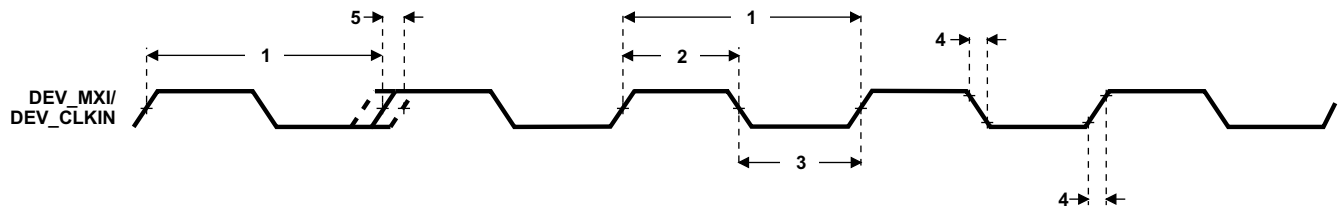

Figure 7-16. DEV_MXI/DEV_CLKIN Timing
Table 7-13. Timing Requirements for DEV_MXI/DEV_CLKIN^{(1) (2) (3) (4)} (see Figure 7-16)